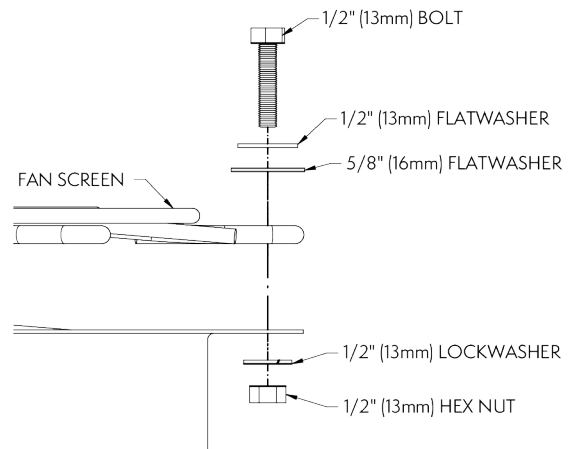

Figure 14 - Attaching Fan Screen to Cylinder
4. At each hole, attach the fan screen to the discharge cylinder as shown in **Figure 14**.